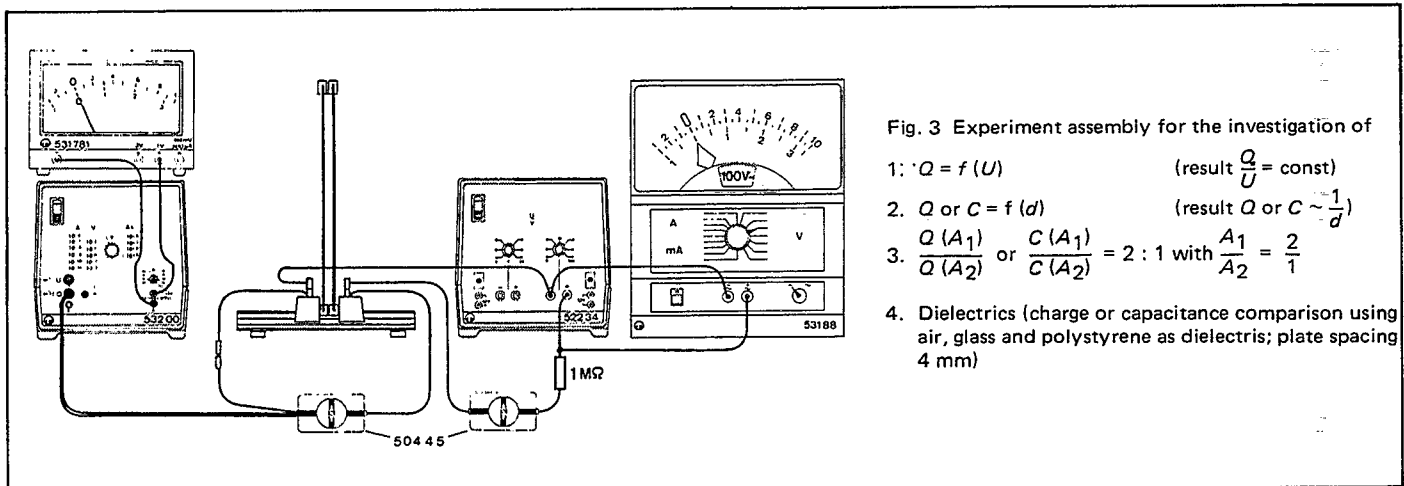

Fig. 3 Experiment assembly for the investigation of
Fig. 4 Parallel and series connection of capacitors. Select spacing between the two capacitors as large as possible and place polystyrene plate ③ between the inner plates. For connections of voltage supply and measuring instruments refer to Fig. 3.